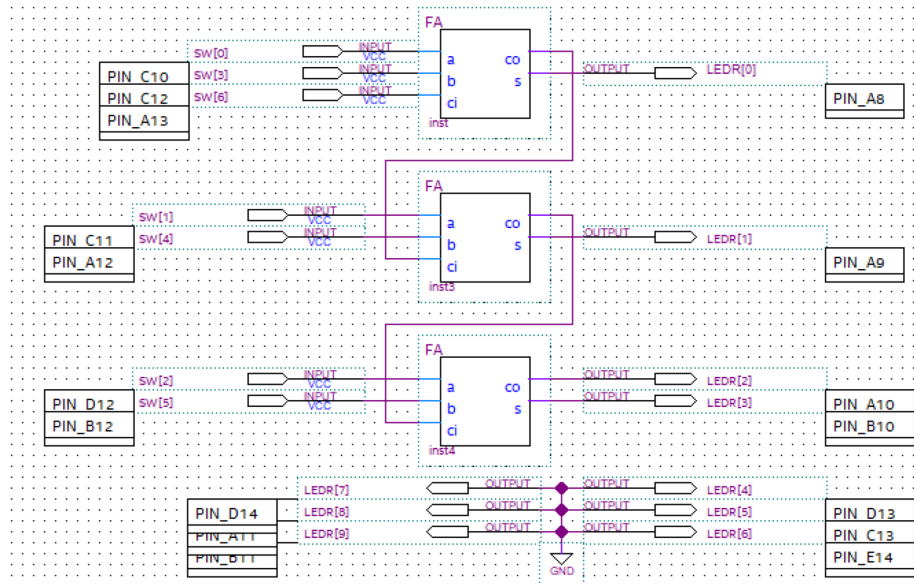
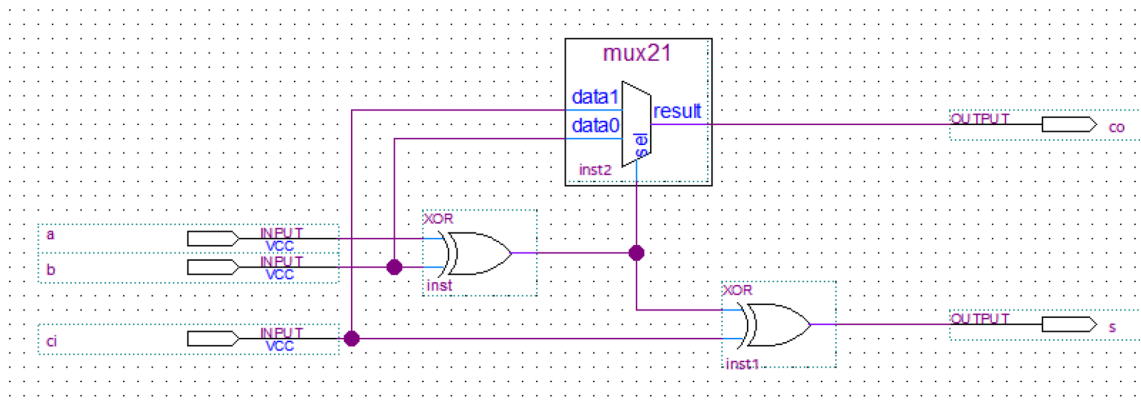

Figure 6: Ripple Carry using Full Adder Circuit
Figure 7: Full Adder Circuit
- I began this section by creating a symbol for Full Adder as seen in *Figure 6*, using the provided schematic. I then implemented this into the provided Ripple Carry with Full Adder Schematic as seen in *Figure 7*.